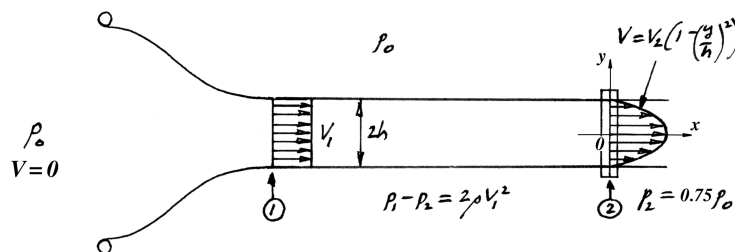

Figure P4.51
4.51 A steady flow of air of constant density ρ is drawn into a duct of constant width w and height $2h$, as shown in Figure P4.51. Viscous effects and energy losses are important only downstream of point 1. The effects of gravity can be neglected. For the velocity